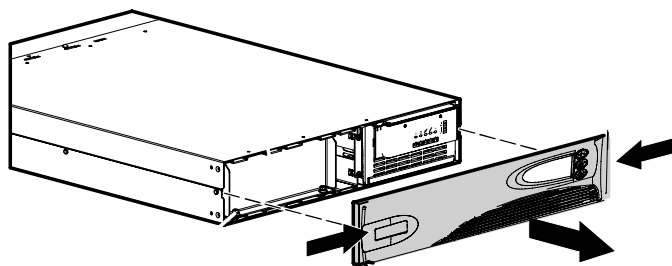

Figure 32. Removing the UPS Front Cover
1. Remove the UPS front cover by pulling on both ends (see Figure 32).